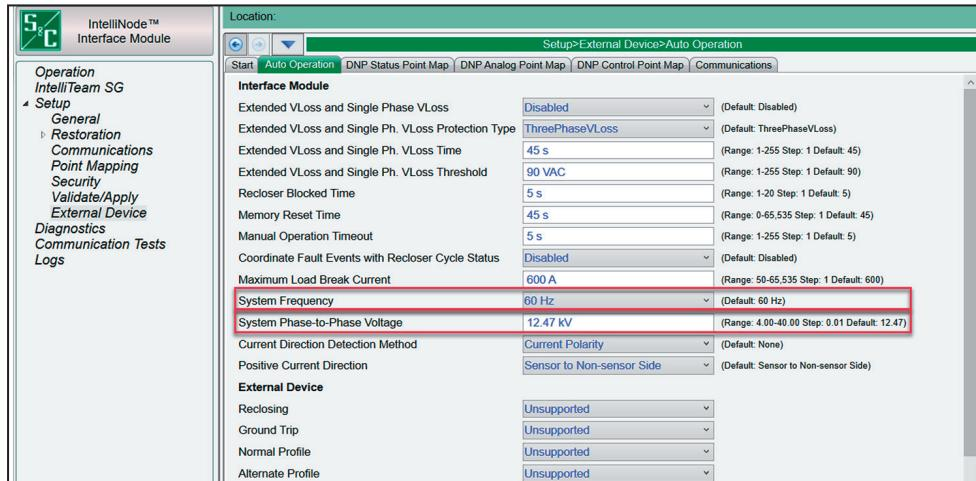

Figure 6. The IntelliNode module System Frequency and System Phase-to-Phase Voltage settings.
STEP 2. Configure the **System Frequency** and **System Phase-to-Phase Voltage** settings to match the line voltage and operating frequency of the system on which the IntelliNode module is deployed. See Figure 6.